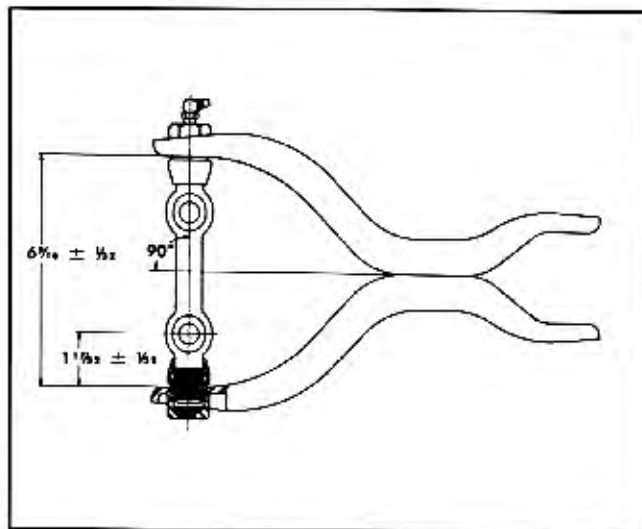

Fig. 3-22 Correct Installation of Shaft in Upper Control Arm
e. Check to see that distance between inner faces of shaft ends of control arm is correct (Fig. 3-22). Also check to see that pivot shaft is equalized in arm by measuring from bolt hole to arm at each end of shaft. Turn shaft in arm to centralize if distances from each bolt hole to arm are not equal. **NOTE:** Frictional drag of shaft in bushings should not exceed 12 lb. in.